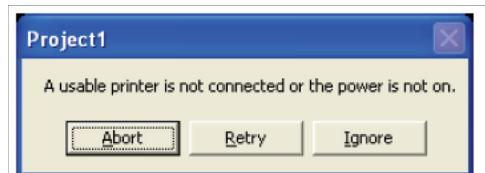

Figure 1. Printer Setting Window
3. If there are multiple printer ports, a printer select window will open (Figure 1). Select the appropriate printer and then click OK.